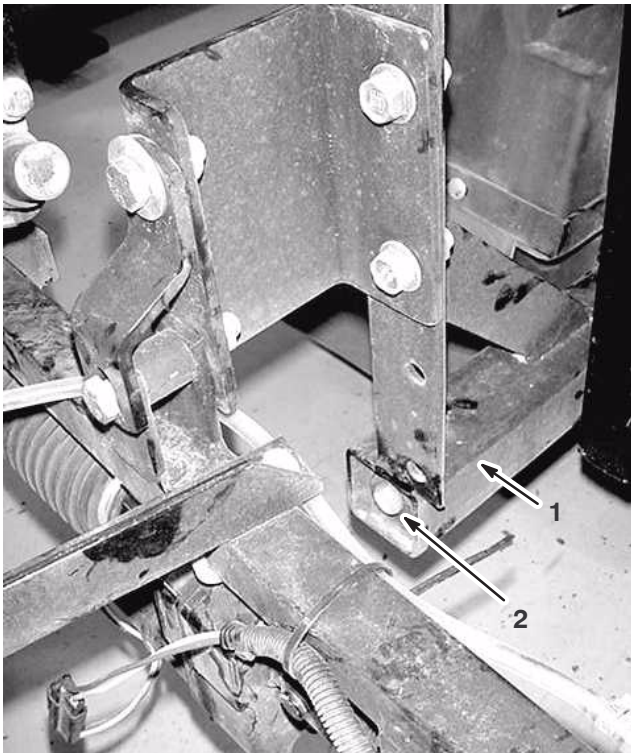

Figure 1
1. Loosen the 2 bolts securing the boom frame to the vehicle and back the boom frame out 2 inches (Fig. 1) to allow for installation of hose reel supports.
5. Slide the boom frame in so that there is 1-1/2 inches (4 cm) of clearance between it and the vehicle or hose reel frames (Fig. 1).
6. Tighten the boom frame bolts (Fig. 1) until the clearance between the boom frame and the vehicle or hose reel frame is 1 inch (2.5 cm).